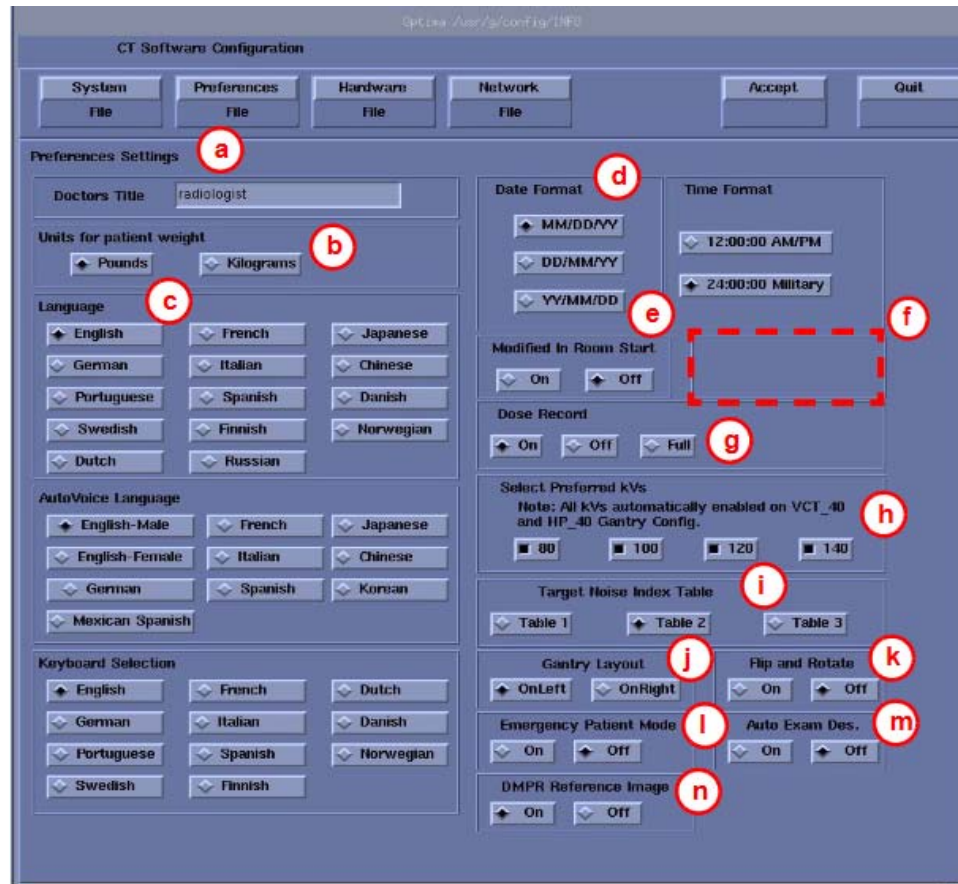

Figure 6-13 Preferences Setup Screen
- 7.) Select the PREFERENCES button to display the Preference Settings Screen as shown in Figure 6-13.